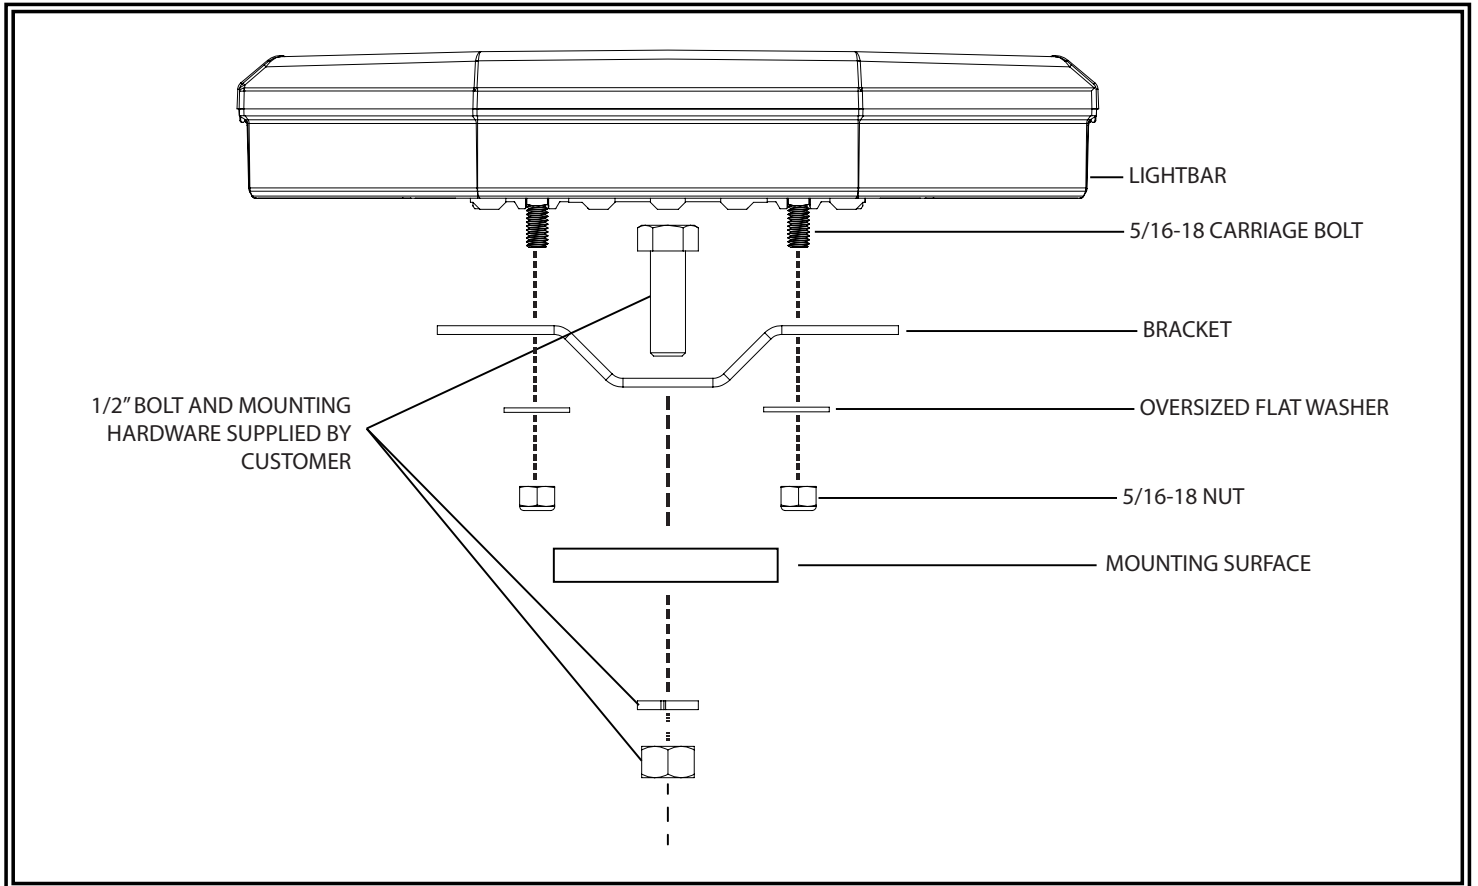

FIGURE 5
1. Insert the four (4) 5/16"-18 carriage bolts in the channels on the under side of the lightbar and loosely attach the mounting brackets.
3. Secure the brackets to the lightbar with the supplied washers and nuts as shown in FIGURE 5.